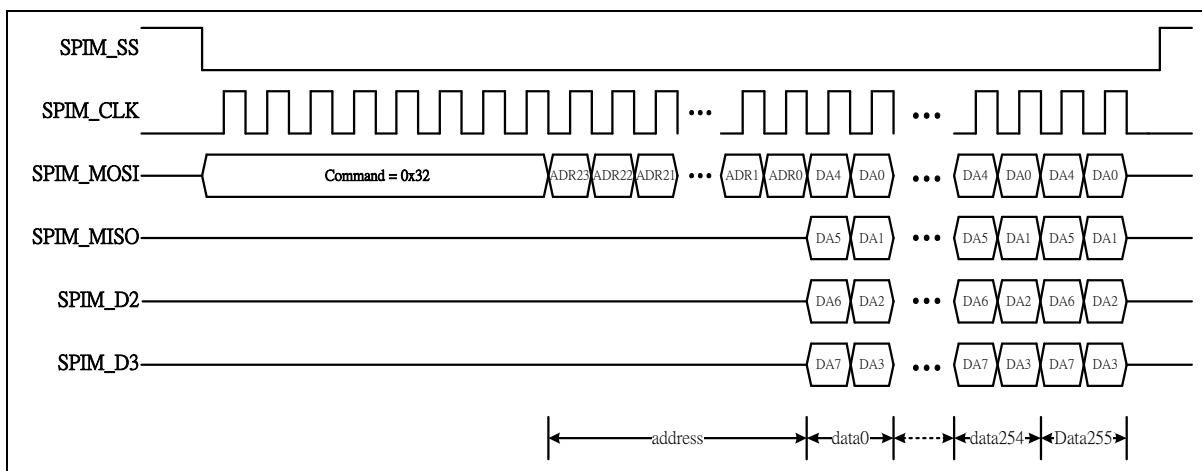

Figure 6.21-3 TYPE_1 Program Command Flow with Quad Mode Write
- Quad write, set CMDCODE (SPIM_CTL0[31:24]) to 0x32 for TYPE_1 program command (refer to Figure 6.21-3).